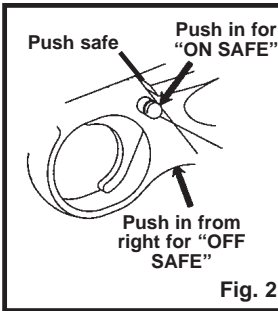

Fig. 2
- Push the safety from the left side all the way in (Fig. 2). The safety is not "ON SAFE" unless it is pushed all the way in and the RED ring around the left side of the safety is not showing.